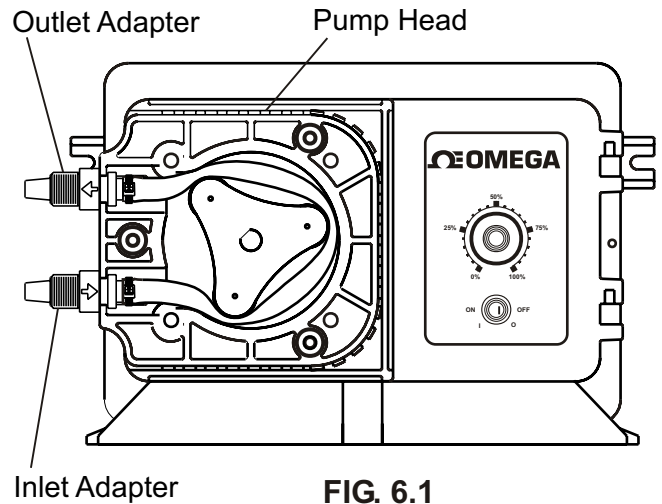

FIG. 6.1
4.3.1 Inlet Tubing - (Compression tube models) - Locate the inlet fitting of the Pump Tube, see fig 6.1. Remove the tube nut. Push the clear PVC suction tubing onto the compression barb of the fitting. Use the tube nut to secure the tube. Hand tighten only.
Inlet Tubing - (Quick-Connect models) - Locate the black, 90° elbow, low pressure Quick-Connect inlet fitting, see fig 6.1. Connect the clear suction tubing to the hose barb. Check that the O-ring is in place on the Pump Tube fitting and press the Quick-Connect fitting onto the Pump Tube. The fitting should securely click in place.
4.3.3 Outlet Tubing - (Compression tube models) - Locate the outlet fitting of the Pump Tube, see fig 6.1. Remove the tube nut. Push the opaque outlet (discharge) tubing onto the compression barb of the fitting. Use the tube nut to secure the tube. Hand tighten only.
Outlet Tubing - (Quick-Connect models) - Locate the beige, high pressure Quick-Connect outlet fitting, see fig 6.1. Remove the metal tube retaining nut from the Quick-Connect fitting and slip it over the end of the opaque outlet (discharge) tubing. Connect the tubing to the hose barb located on the fitting. Secure the tube to the fitting with the metal nut. Check that the O-ring is in place on the outlet end of the Pump Tube and press the Quick-Connect fitting onto the Pump Tube. The fitting should securely click into place.